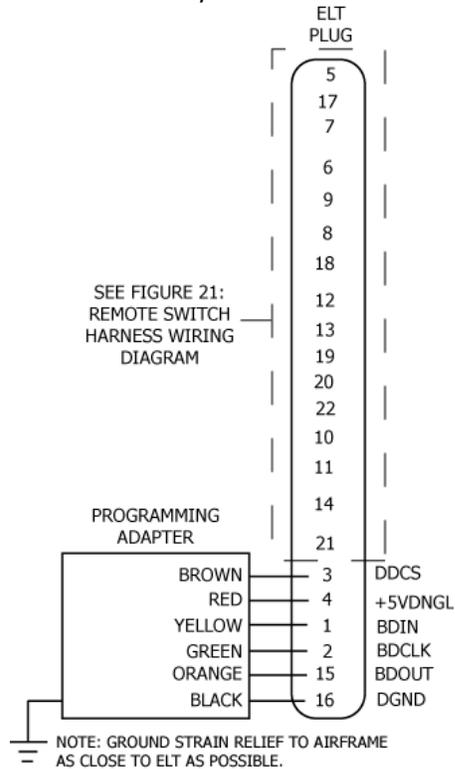

Figure 30 Programming Adapter Interface Wiring Diagram
- 4) Terminate the contact sockets of the six PA wires in the remote switch harness ELT plug using insertion tool MS27495A22MS, or equivalent. See Figure 30 Programming Adapter Interface Wiring Diagram.